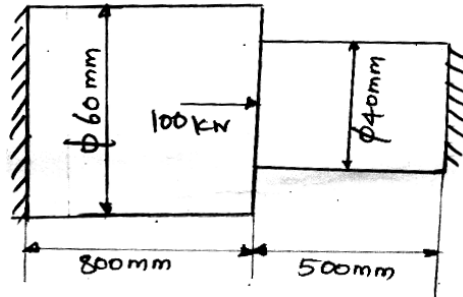

Fig 5.C
- c. Using penalty method of handling boundary condition determine the nodal displacement, stress in each element and support reaction in the bar shown in Fig. 5.C due to applied force $P = 100 \text{ kN}$. Take; $E_{\text{steel}} = 200 \text{ GPa}$, $E_{\text{cu}} = 100 \text{ GPa}$.